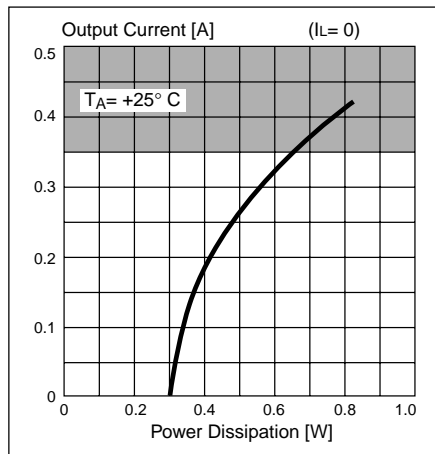

Figure 23. Typical  $P_{DP}$  vs.  $I_P$ . Power dissipation without second-level supply (includes 2 active outputs = FULL STEP)
- Figures 23 and 24 give the relationship between motor currents and their dissipations. The sum of these power dissipations must never exceed the previously-established value, or life expectancy will be drastically shortened.
- When no Bi-level or voltage doubling is utilized, the maximum motor current can be found directly in figure 23 .